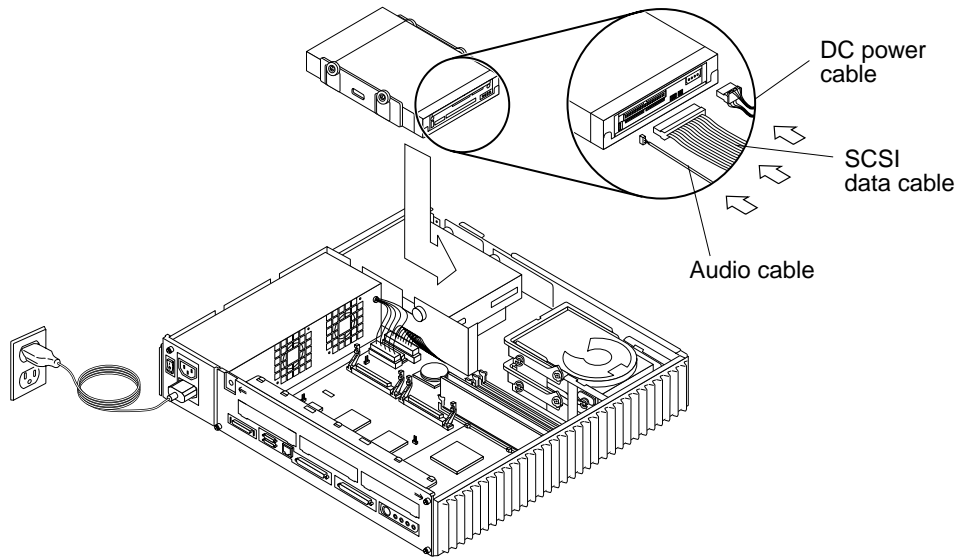

FIGURE 9-6 Replacing the CD-ROM Drive
3. Install the drive as shown in FIGURE 9-6.
See FIGURE 9-6.